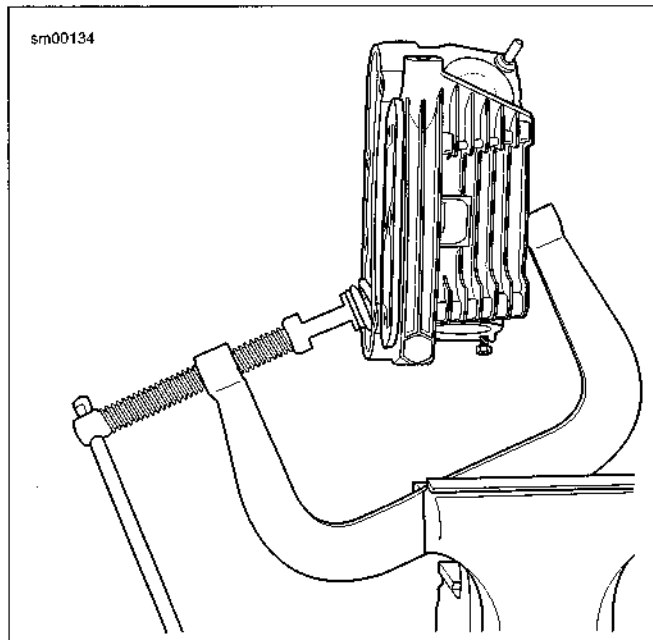

Figure 3-46. Valve Spring Compressor
6. See Figure 3-46. Compress valve spring with VALVE SPRING COMPRESSOR (Part No. HD-34736-B).